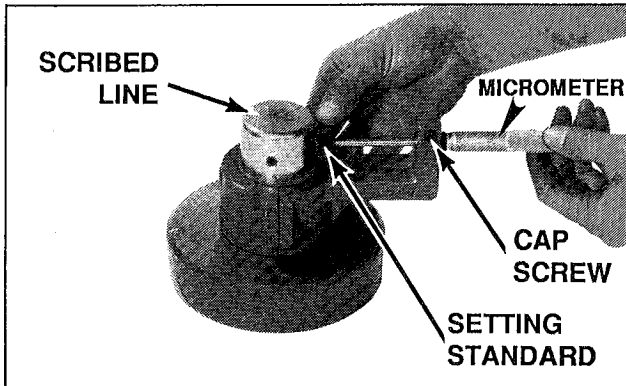

FIG. 4 CHECKING MICROMETER READING
2. To check the micrometer reading. Align the micrometer with scribed line on micrometer shaft. Install the setting standard between the Micrometer Shaft and the Micrometer. The Micrometer reading must be 3.000 inches. (See Fig. 4)